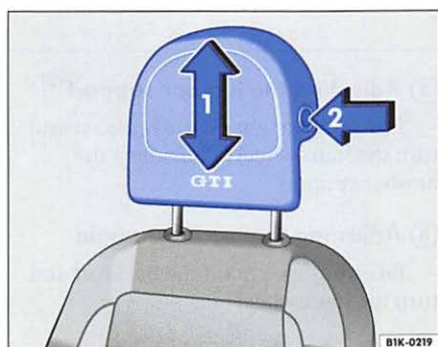
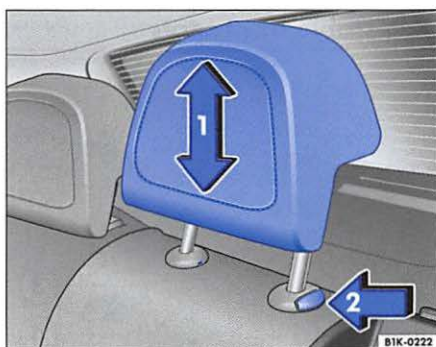

Fig. 50 Adjusting and removing the head restraints
Fig. 51 Adjusting and removing the rear head restraints
- Push the head restraint up in the direction of the arrow or, with the button pressed ⇒ fig. 50 ② or ⇒ fig. 51 ② down. Correct height: ⇒ page 56.
- Hold the button ⇒ fig. 50 ② or ⇒ fig. 51 ② down and remove the head restraint at the same time.